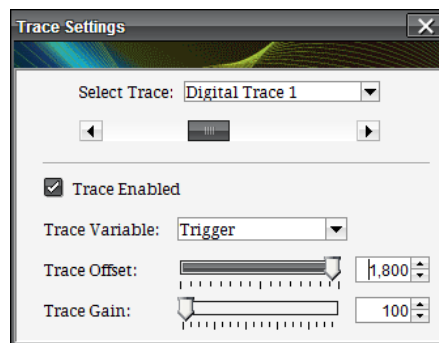

Fig. 7.9: The Trace Settings Window
- “...” button: opens the Trace Setting window (Fig. 7.9) to set the DC offset and the gain of the traces in the Oscilloscope plot. These settings have no effect on the real input signal, but only on the visualization of the Oscilloscope plot. For this reason it is recommended to adjust only the digital traces offset and gain for a correct visualization.